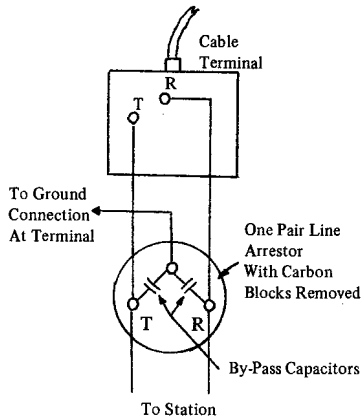

FIGURE 3. Capacitor Installation at Cable Terminal
- 4.04 In some severe cases of RFI, it may be necessary to place bypass capacitors at the serving terminal in addition to those placed within the telephone set or protector. These additional capacitors shall be mounted outside the terminal in a one pair line arrestor (either cable or open wire type is acceptable). Mount the arrestor as close to the terminal as possible, keeping in mind the need to *avoid climbing area infractions* while maintaining easy access to the cable terminal. Remove carbon blocks before installing capacitors. Carbon blocks are not to be used in this application of the line arrestor. Refer to Figure 3 and proceed as follows: